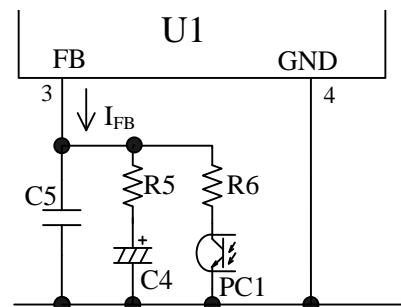
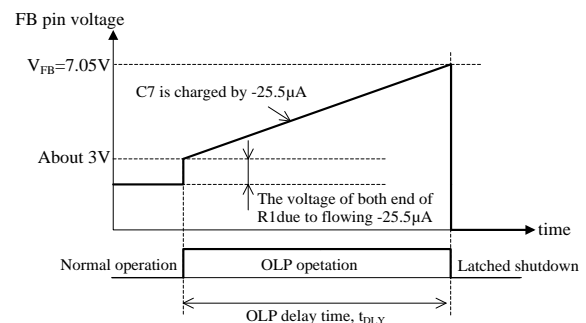

Figure 8-29 FB pin peripheral circuit
Figure 8-30 OLP operation
Figure 8-29 shows the FB pin peripheral circuit, Figure 8-30 shows the FB pin waveform at Overload Protection (OLP) operation.
Given the time that until the FB pin voltage reaches to  $V_{FB}$  as the OLP delay time,  $t_{DLY}$  (refer to Figure 8-30).  $t_{DLY}$  is calculated Equation (18).